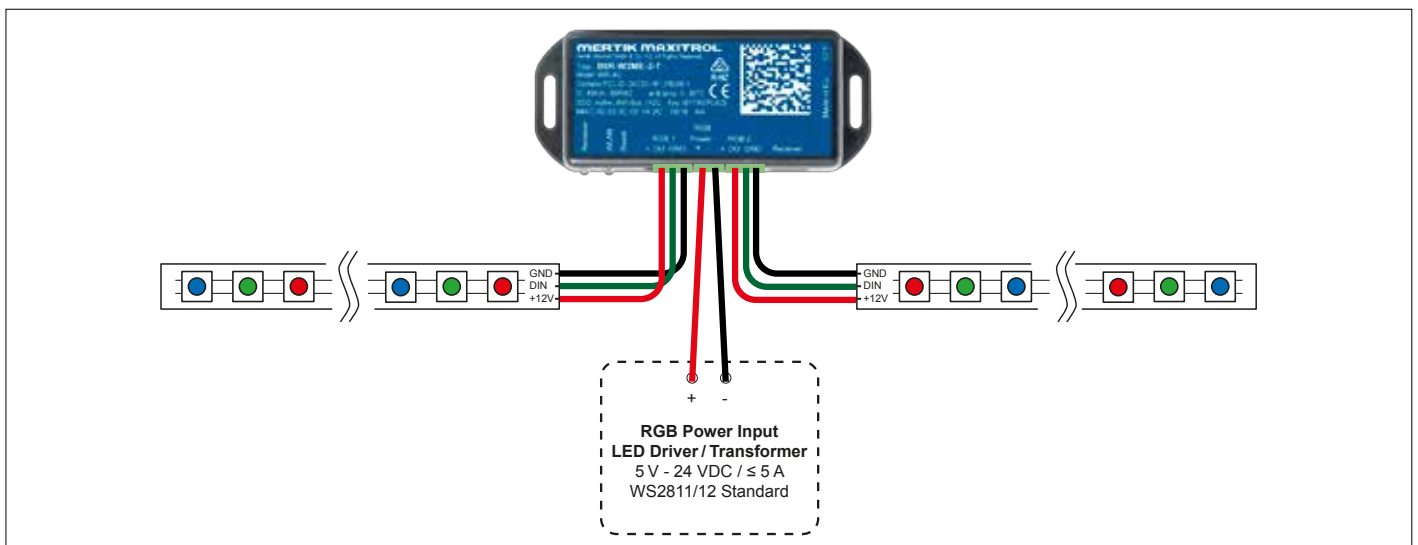

Figure 25: LED setup 1 (Direct connection)
- The power has to be connected to the LED RGB external power input of the Wi-Fi Box. (see figure 25, page 24)